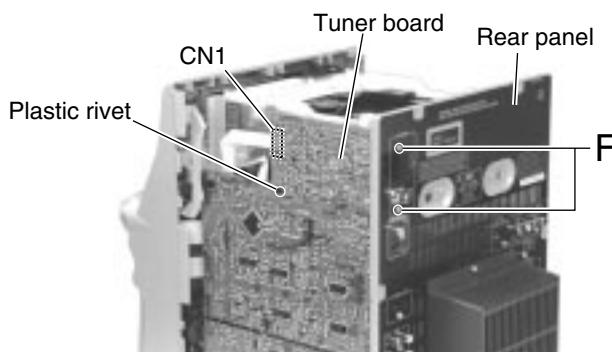

Fig.13
■ Removing the tuner board (See Fig.13 and 14)